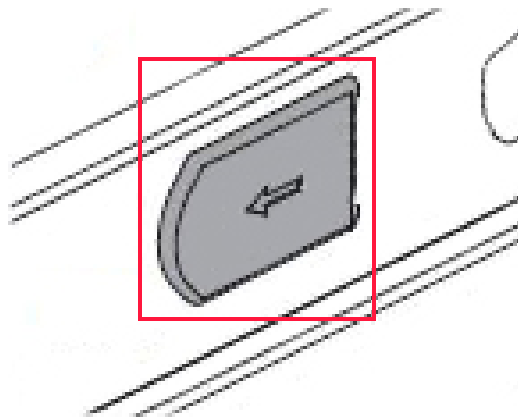

Figure 2.22 Release tab
8. Test the lower CMA to ensure smooth CMA operation. No pinching or binding of the cables should occur. When pulling the enclosure from the rack, the rails lock in the serviceable position. To release the rails from the serviceable position, press the release tab on each inner chassis member rail and simultaneously push the enclosure into the rack. The release tab is identified in Figure 2.22.